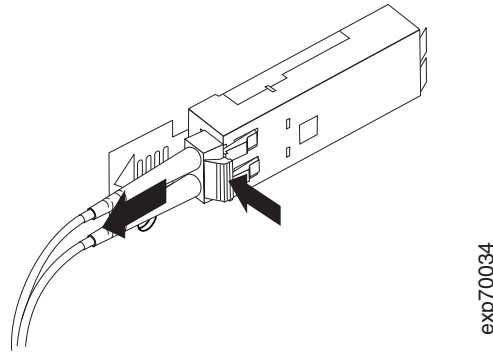

Figure 28. Removing the LC-LC fibre channel cable
2. Carefully pull on the connector to remove the cable from the SFP module as shown in Figure 28 on page 39.